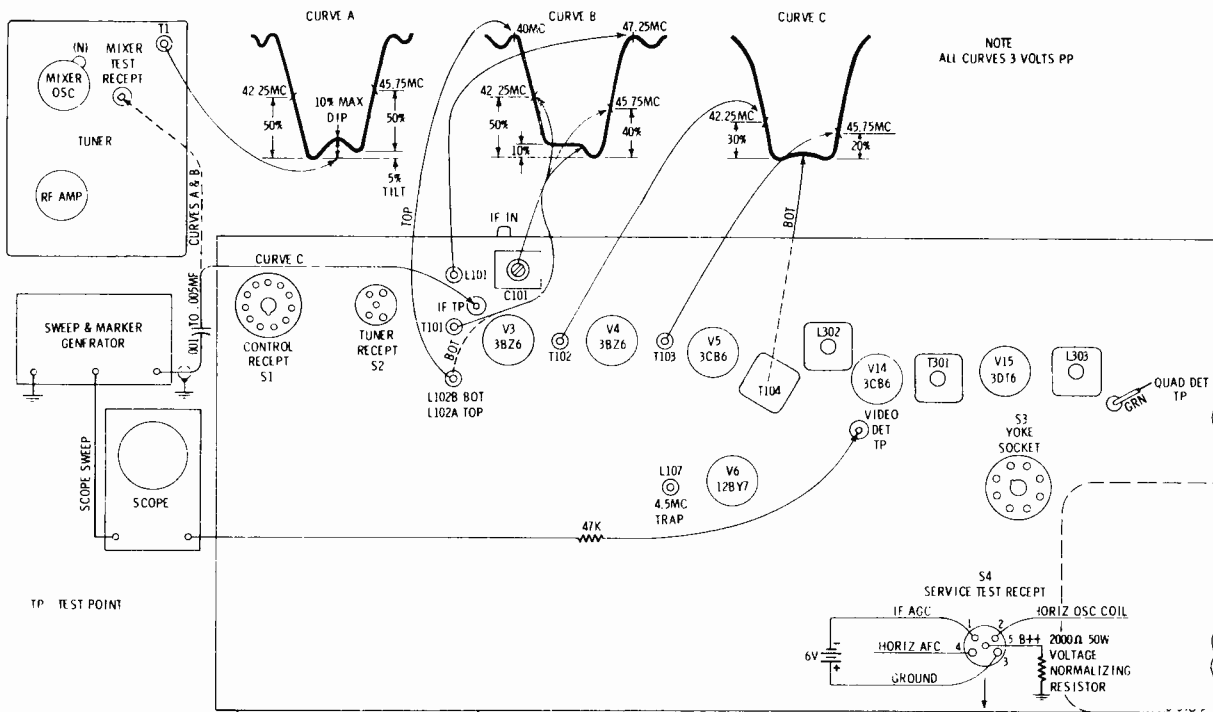

FIGURE 6. VIDEO IF AND SOUND ALIGNMENT DETAIL
6. Refer to Video IF & Mixer Alignment Detail for component and test point location (Figure 6).
3. Refer to Video IF & Mixer Alignment Detail for coil and test point locations (Figure 6).